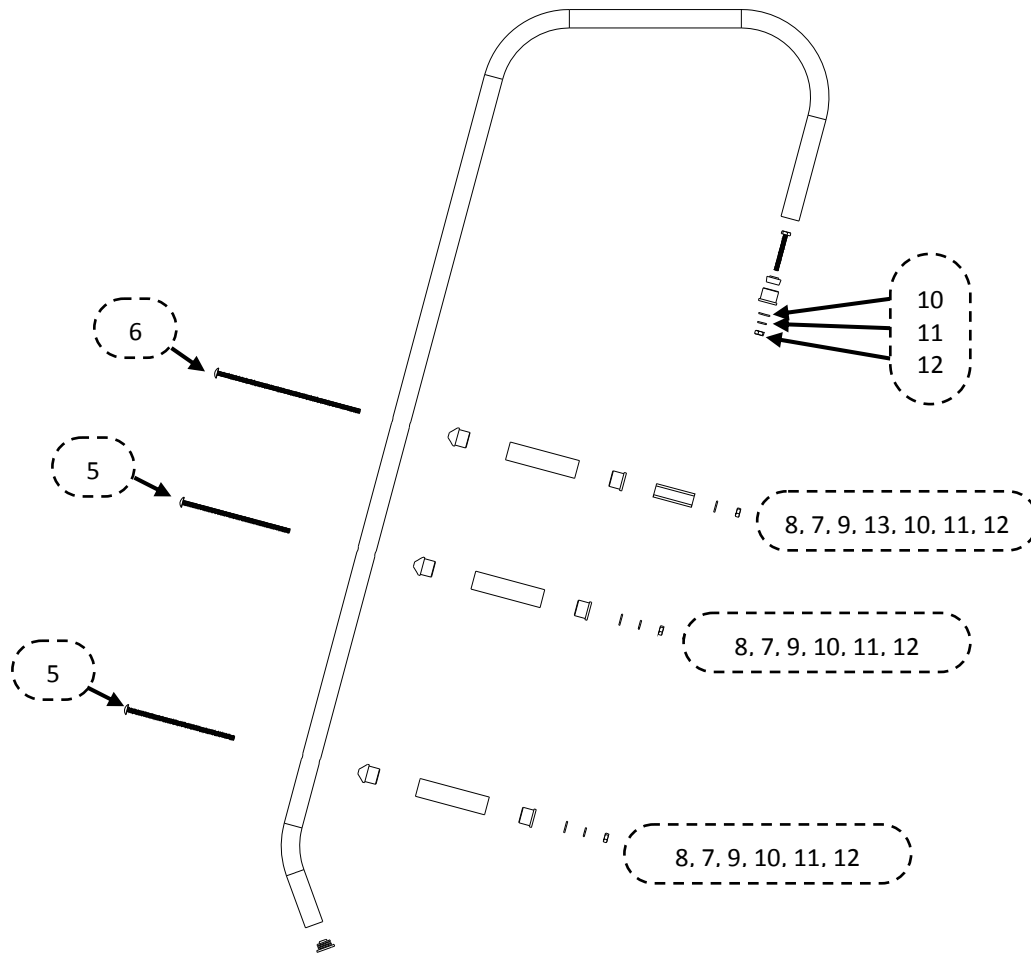
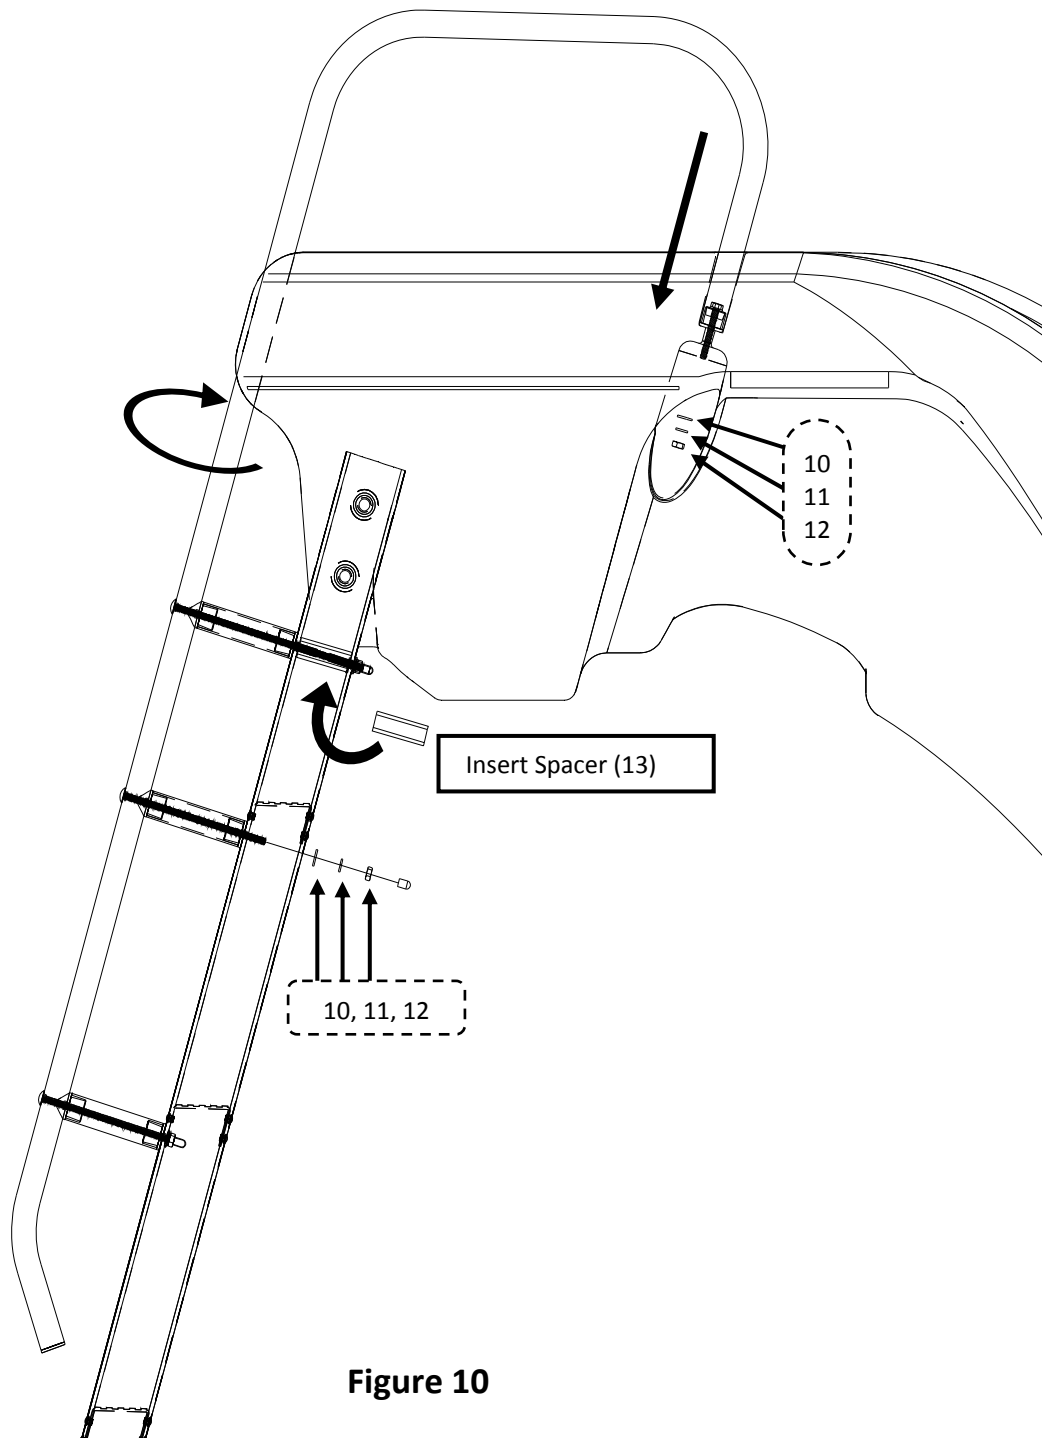

Figure 9
Figure 10
- 11) Disassemble each handrail as shown in Figure 9. Insert the two handrails into the holes on the top of the slide runway rails, and rotate so that the rails are resting in the grooves on the back side of the entrance section. Secure each handrail into the socket using a (#10) Flat Washer, a (#11) Lock Washer, and a (#12) Hex Nut.
- 12) Starting with the top handrail spacer, align the top hole in the handrail with the top hole in the ladder side rail. Next, assemble the handrail spacer parts (#7), (#8) and (#9) in the order shown in Figure 9 and align it between the handrail and ladder top holes. Next, insert the (#6) 1/4-20 x 8" Carriage Bolt through the handrail and the handrail spacer parts. The (#13) Ladder spacer is to be placed in the inside channel of the ladder side rail such that the (#6) Carriage Bolt holds it in place after it is pushed completely through the ladder side rail, see Figure 10. Secure the (#6) Carriage bolt using a (#10) Flat Washer, a (#11) Lock Washer, and a (#12) Hex Nut in the order shown in Figure 9 and 10.
13) For the remaining two ladder spacers, align parts (#7), (#8) and (#9) between the hole in the handrail and the hole in the ladder as in step 12. Use a (#5) 1/4-20 x 6" Carriage Bolt along with a (#10) Flat Washer, a (#11) Lock Washer, and a (#12) Hex Nut to fasten the parts together as shown in Figures 9 and 10.